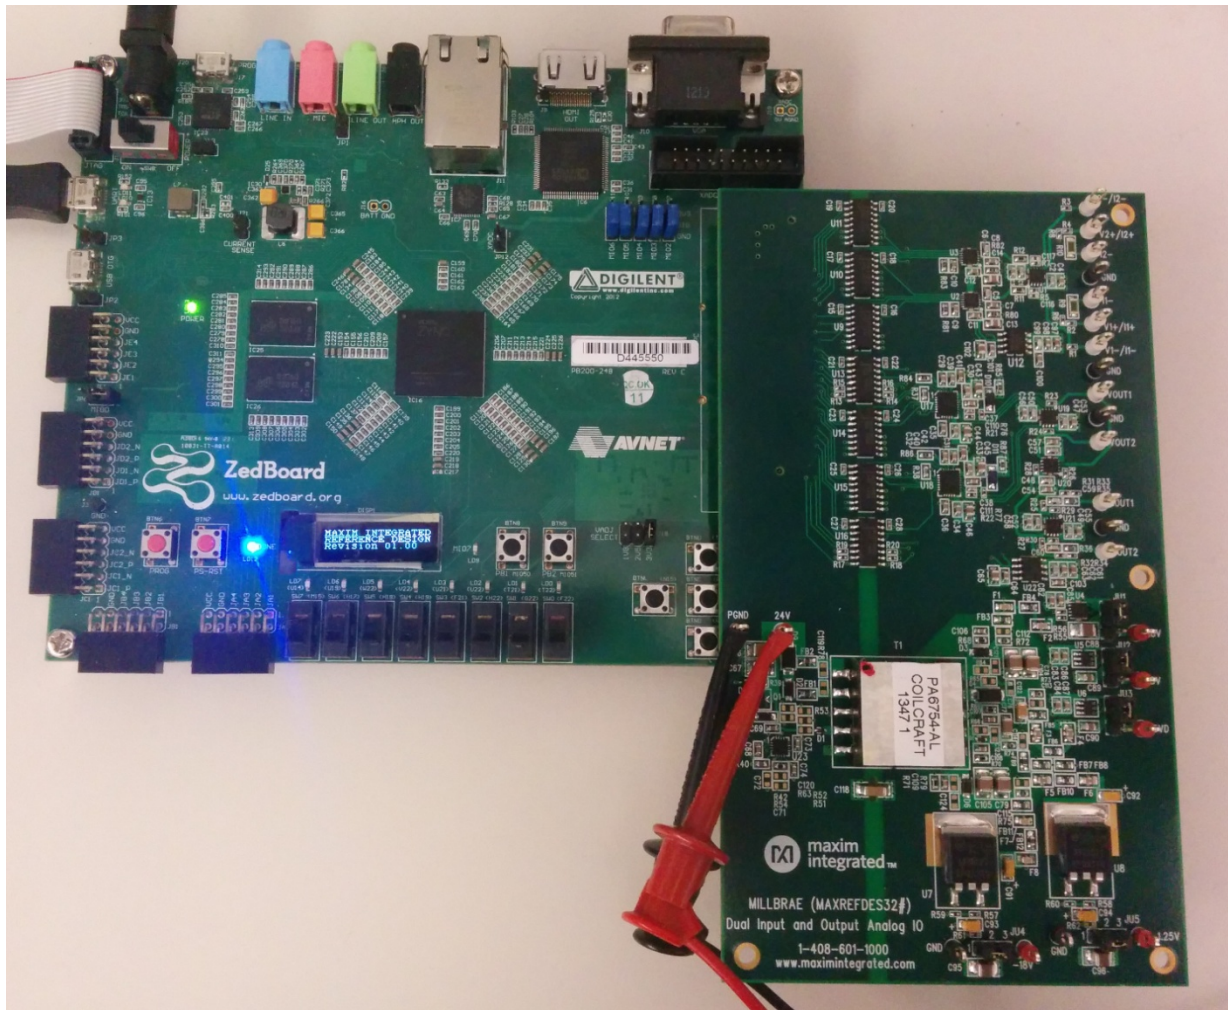

Figure 5. MAXREFDES32# Board Connected to ZedBoard Kit
- 7) Connect the MAXREFDES32# reference design board to the J1 FMC™ connector (Figure 5).
- 1) Connect the MAXREFDES32# board to the J1 FMC connector of a ZedBoard as shown in Figure 5.
4. Connect the MAXREFDES32# board to the J1 FMC connector of the ZedBoard as shown in Figure 5.